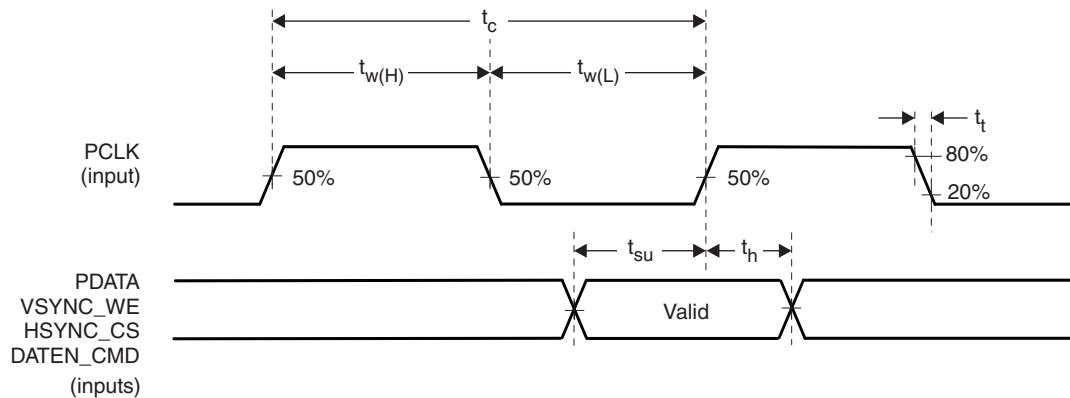

Figure 4. Input Port Interface
- (1) Contact TI for I2C, LED driver, power-up and power-down timing information.
(2) PCLK may be inverted from that shown in Figure 4. In that case the same specifications in the table are valid except now referenced to the falling edge of the clock. If the falling edge of PCLK is to be used, an I2C command is needed to tell the DLPC100 to use the falling edge of PCLK.
(3) Use the following formula to obtain the jitter. Jitter = [1/frequency – 30 ns]. Setup and hold must still be met.